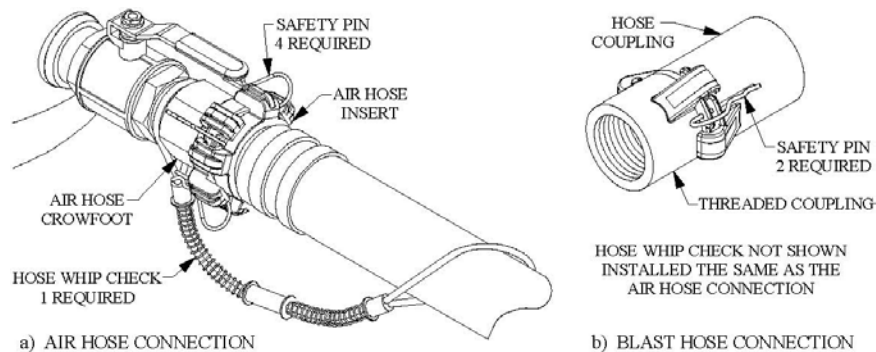

Figure 8.2 – Hose Connection Disconnect Protection
- 8.7. All air hose, blast hose, and threaded couplings have pin holes that align when connected. To prevent accidental hose disconnections safety pins must be installed through these holes. Each hose connection must also include a hose whip check that will hold the hose if there is an accidental disconnection. Connect one loop to each side of the connection and stretch out as shown in Figure 8.2 below. Check hose connections daily and replace missing or damaged pins and whip checks.